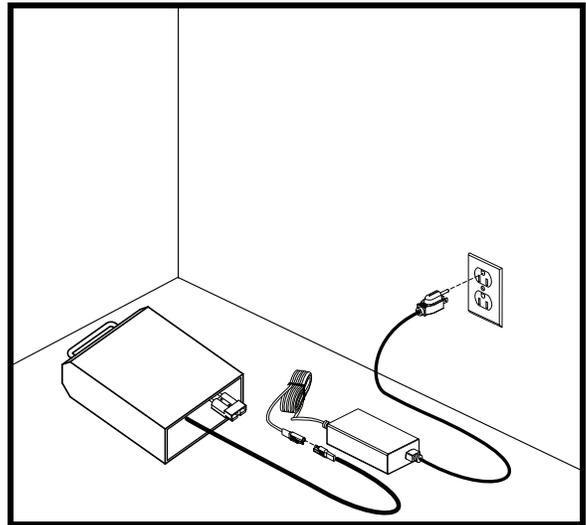

Figure 19. Battery Charging
2. Plug the charger cord into the mating socket located on the bottom of the battery case, then connect the charger cord to a standard electrical outlet. See figure 19.